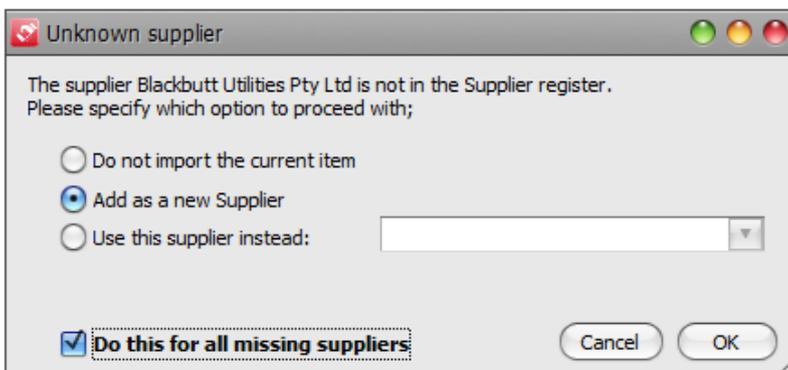

Figure 112 Unknown supplier dialog
6. The Import Wizard will now pick up that there are new suppliers in the data that it needs to add to the system. The Unknown Supplier dialog box will come up. Make sure the Add as New Supplier is selected, check the 'Do this for all missing suppliers' (Figure 112).